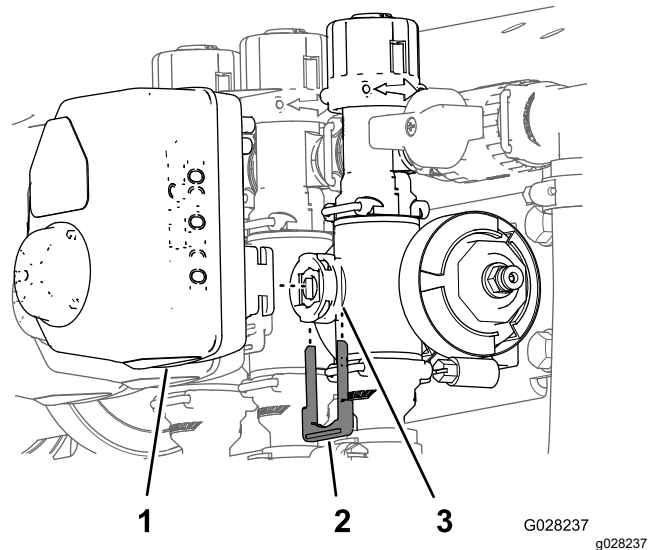

Figure 9
1. Remove the retainer that secures the actuator to the manifold valve for the section valve or agitation valve (Figure 9).